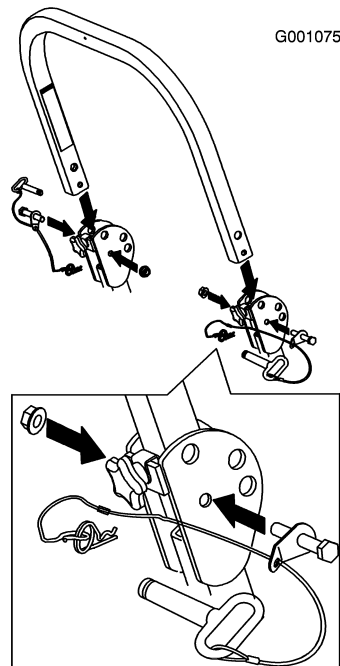

Figure 10
7. Tighten the center roll bar bolts (1/2 x 3-1/4 inch) so it rotates freely with some resistance (Figure 10).